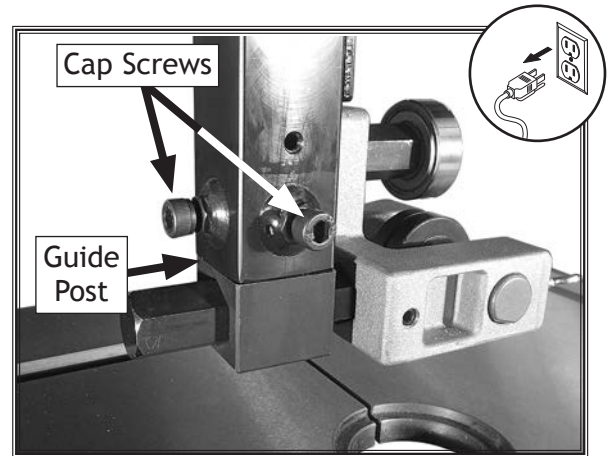

Figure 51. Location of cap screws for removing "Euro-style" roller discs.
3. Loosen two cap screws on guide post that secure upper blade guide assembly, as shown in **Figure 51**, and remove upper "Euro-Style" roller-disc guide assembly.